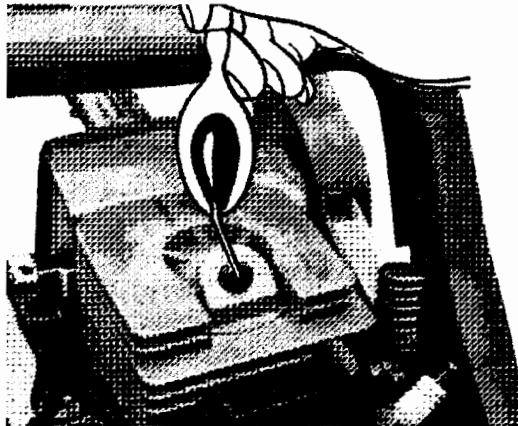

Fig. 31
5. Pour 1 teaspoon of clean 2-cycle oil into the combustion chamber. Pull starter rope slowly several times to coat internal components. Replace spark plug (Fig. 31).